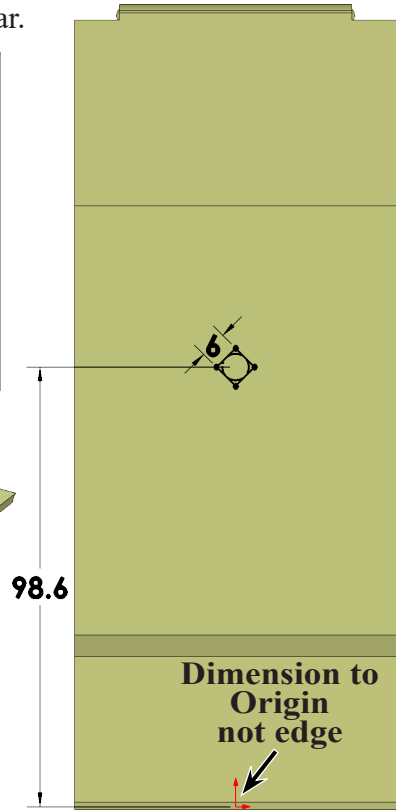

Fig. 31
Step 9. Click **Smart Dimension**  (S) on the Sketch toolbar.
Step 10. Dimension segment 6 and **centerpoint to Origin 98.6**, **Fig. 31**.